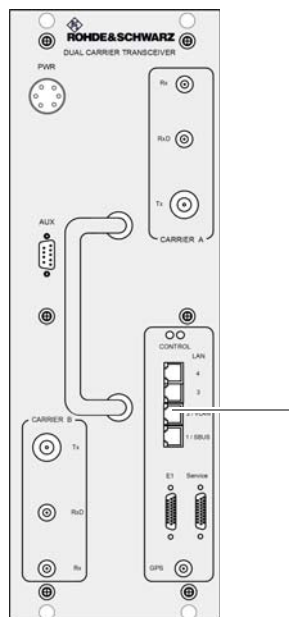

Figure 6.1 Service connector
- ➔ Connect the Ethernet cable to the service connector of the network element (refer to Figure 6.1) and to the Ethernet port of the service computer.